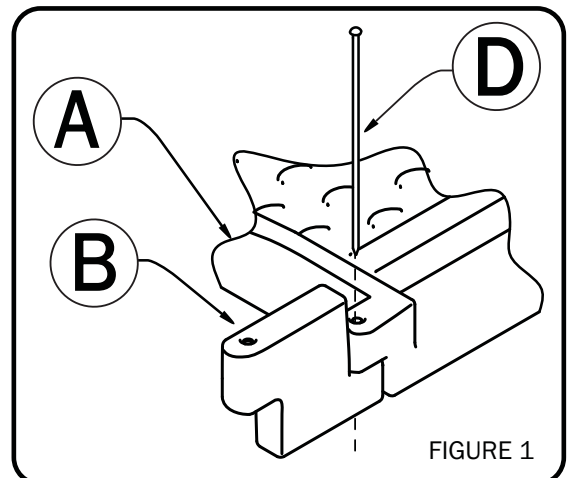

FIGURE 1
2. Pour concrete into footing holes and lay Accessible Ramp(A) in position over surface. Push (2) Stakes(D) through the holes in the Accessible Ramp(A), through Ramp Adaptors(B,C) and into concrete. See *Figure 1*.